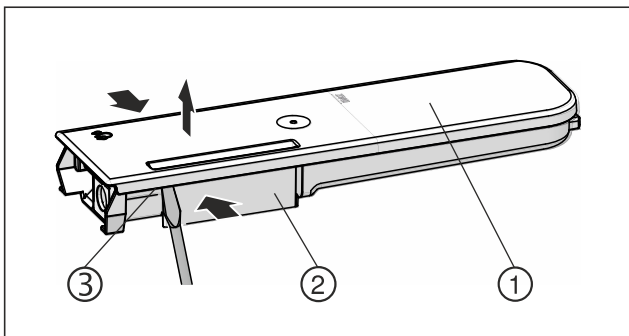

Fig. 165
- ▶ Push the water tanks Fig. 165 (2) together, leverage the cover Fig. 165 (1) carefully over the latching tabs Fig. 165 (3) and lift it up.
- ▶ Move the cover Fig. 165 (1) slightly forwards and back, and remove to the top.